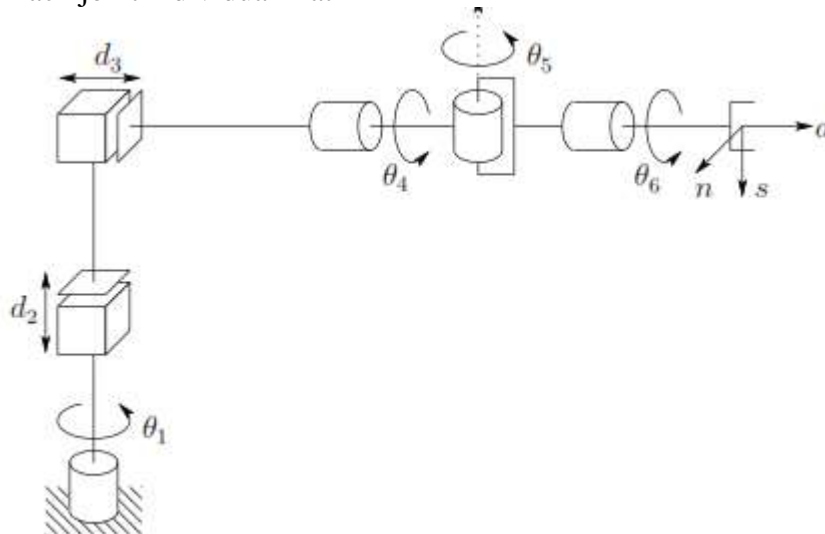

Figure 1. Cylindrical robot with spherical wrist manipulator
- (c) Consider Schematic of a Cylindrical robot with spherical wrist manipulator with a base frame and end-effector frame shown in figure 1. Using D-H notation Construct
- (1) Rotation of  $90^0$  about the y-axis,
- (2) Followed by a rotation of  $90^0$  about the x-axis,
- (3) Followed by a rotation of  $90^0$  about the z-axis
- (4) Followed by a translation of  $[4,-3,7]$
- (c) Consider the reverse transformation of a two joint manipulator shown in fig.1. **07**